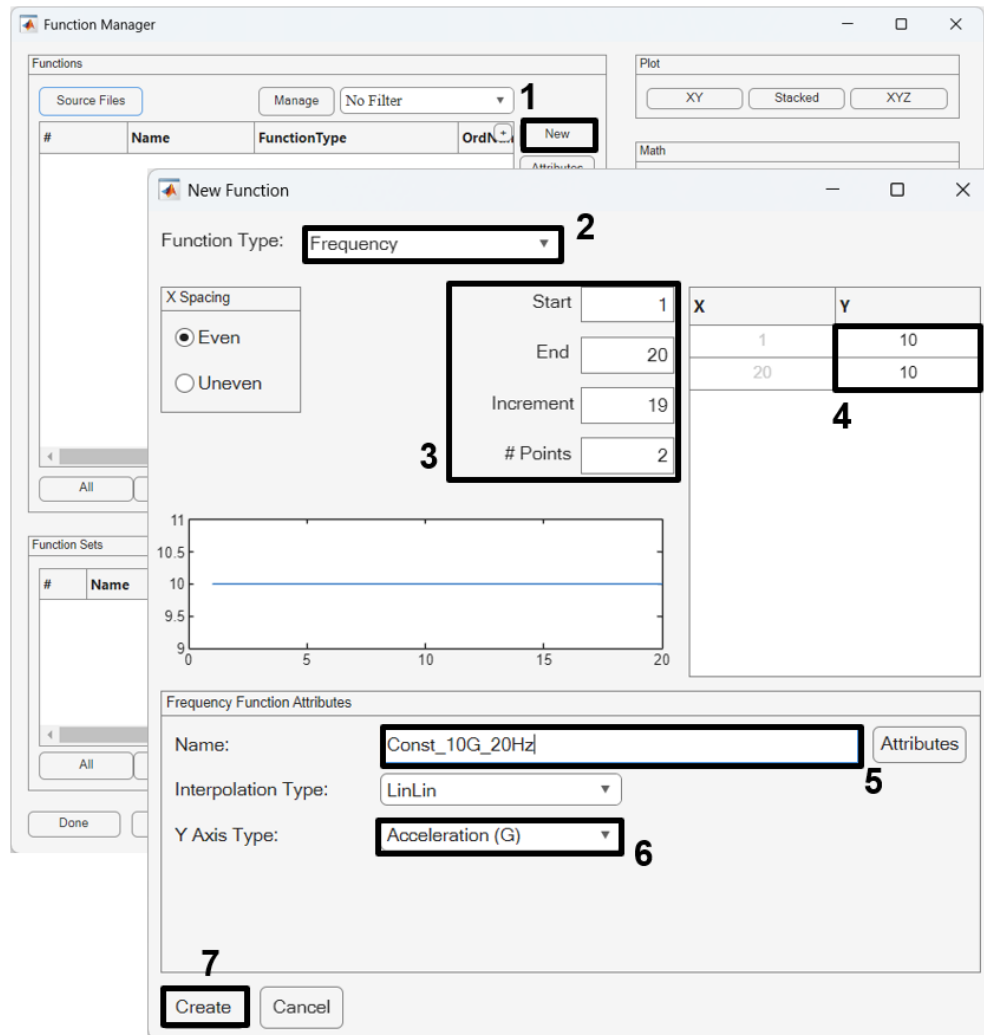

Figure 4-12. Use the Function Manager to create an acceleration function.
- c. In the Function Manager (Figure 4-12), create a new function. Define it as a frequency function with acceleration in G. Give it a constant magnitude of 10G from 1 to 20 Hz.